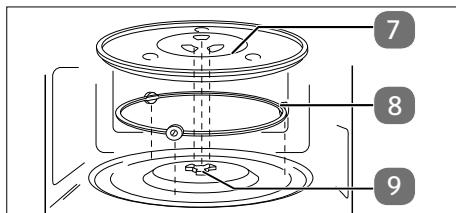

Fig. 5 – Inserting the glass turntable
▶ Place the roller ring in the recess in the microwave and then place the rotary plate in the middle of the drive shaft (see **Fig. 5**) so that the webs of the glass turntable lie between the wings of the drive shaft.